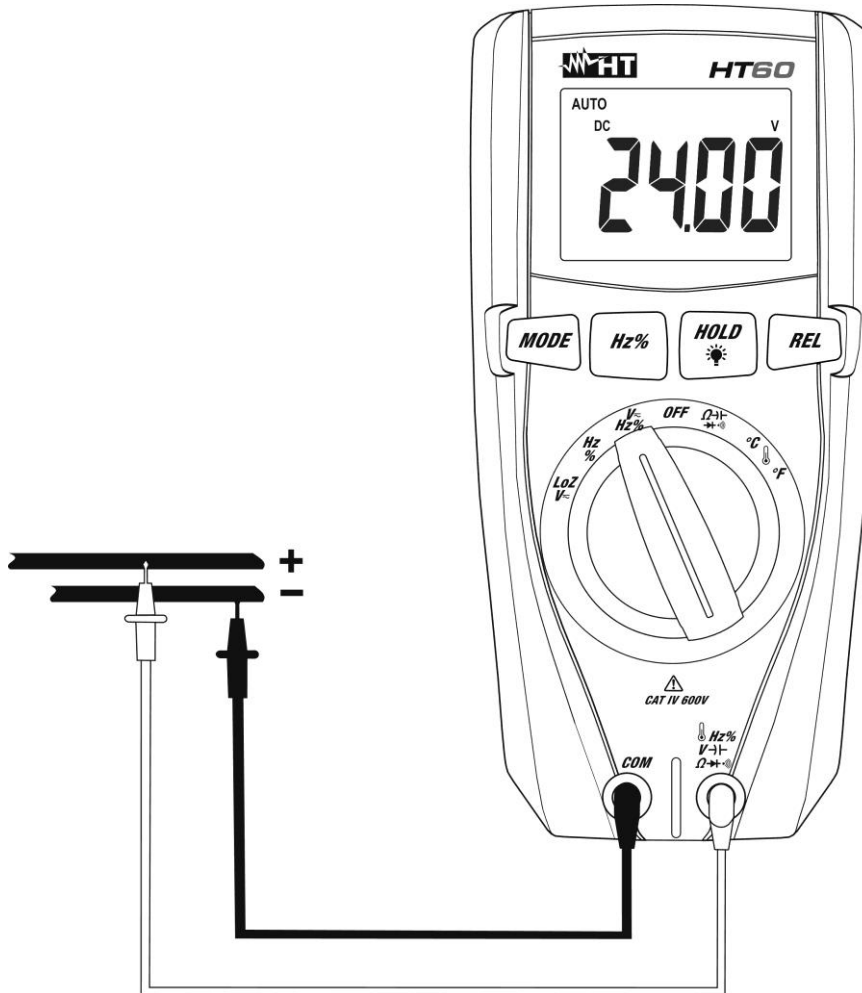
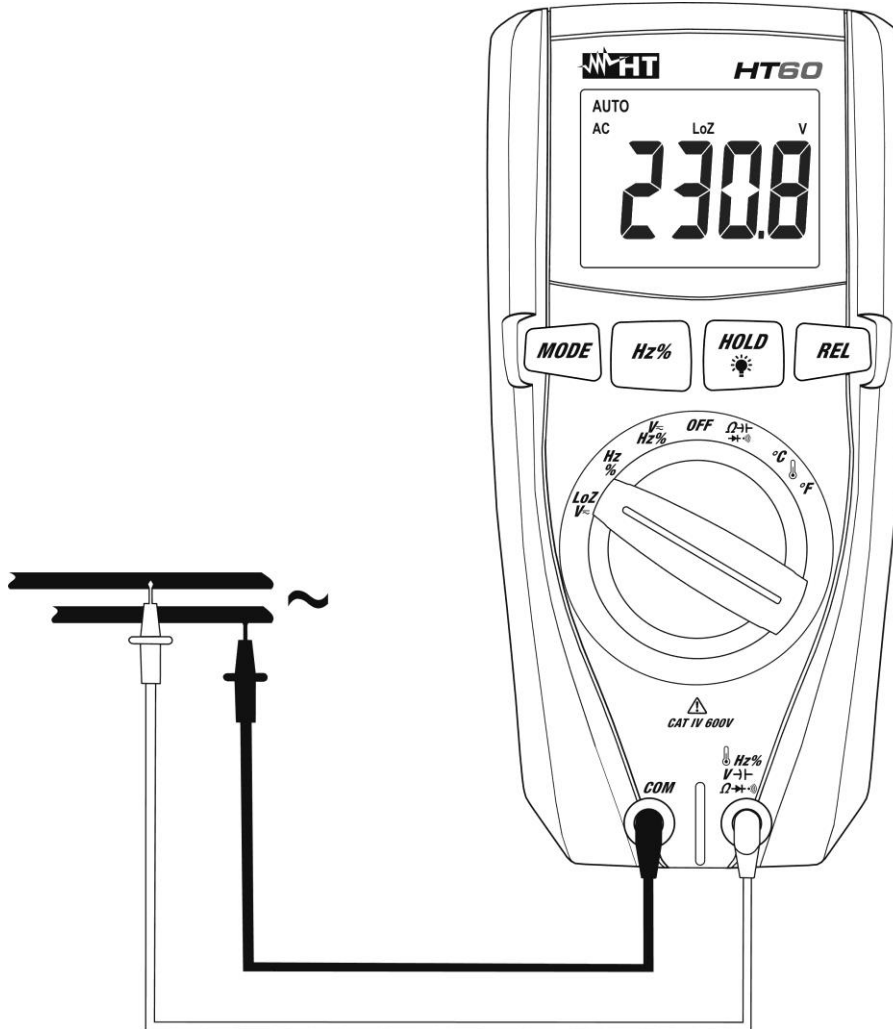

Fig. 2: Use of the instrument for DC voltage measurement
Fig. 4: Use of the instrument for AC/DC voltage measurement with low impedance (LoZ)
4. Position the red lead and the black lead respectively in the spots with positive and negative potential of the circuit to be measured (see Fig. 2). The display shows the value of voltage.
6. When symbol “-” appears on the instrument’s display, it means that voltage has the opposite direction with respect to the connection in Fig. 2.
4. Position the red lead and the black lead respectively in the desired spots of the circuit to be measured (see Fig. 4) or in the spots with positive and negative potential of the circuit to be measured (see Fig. 2). The display shows the value of voltage.